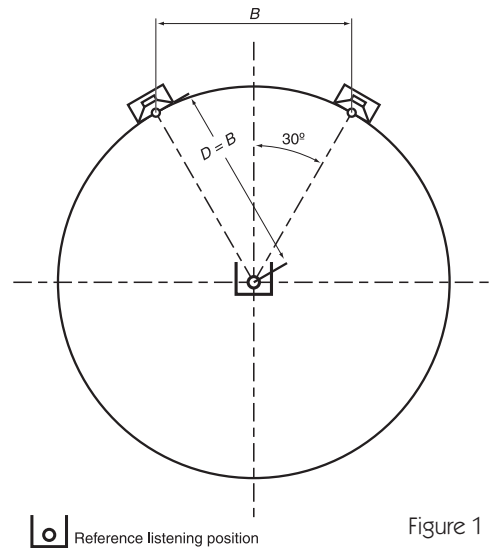

Figure 1
6. Our recommended position for the nearfield monitors is based on an ITU standard and sets the speakers at 60 degrees from the listener, forming an equilateral triangle (a triangle with equal sides) - **See Figure 1**. Fortunately, this setup eliminates most of the math and is easily simplified to the following guidelines: If you want to sit 1 meter (39.37 inches) from the speakers, place the speakers 1 meter apart. If you want to sit 2 ft. from the speakers, place the speakers 2 ft. apart. Etc. The monitors can be positioned on a console, desk, on stands, etc. Ideally your nearfields should be at seated ear height. If this is not possible, tilting the cabinet at the listening area can improve high-frequency coverage.